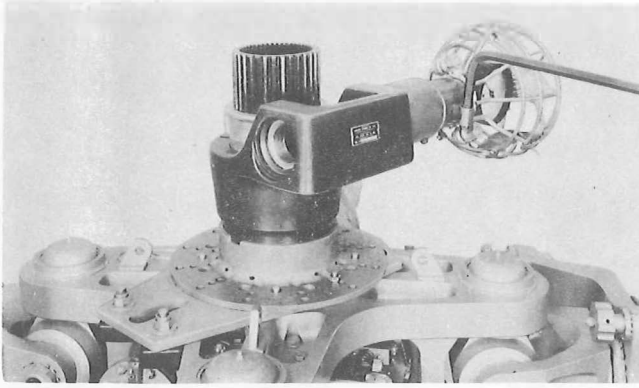

Figure 2-30. Using Special Tools on Main Rotor Nut
Set the assembled unit over the drive cylinders. Screw the Hydra-Pak ram and gage assembly, HSP-ST5006, into the housing, KS-2172. Slide the forged ball arm sleeve, KS-2069, revision "C" or later, or KS-2187 over the splines of the drive cylinder and use the Hydra-Pak ram and gage assembly to loosen the lock nut. (See figure 2-30.)
f. Use the Hydra-Pak ram and gage assembly to tighten the lock nut with 2000 to 2500 foot-pounds torque. (See figure 2-30.)